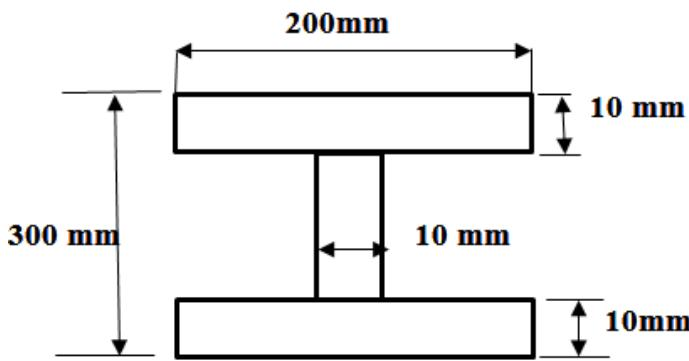

Figure 5a
- 5 a) A beam of I-section (Figure 5a) 200 mm x 300 mm has thickness 10 mm and flange thickness 10 mm. It carries a shearing force of 10 kN at a section. Sketch the shear stress distribution across the section.